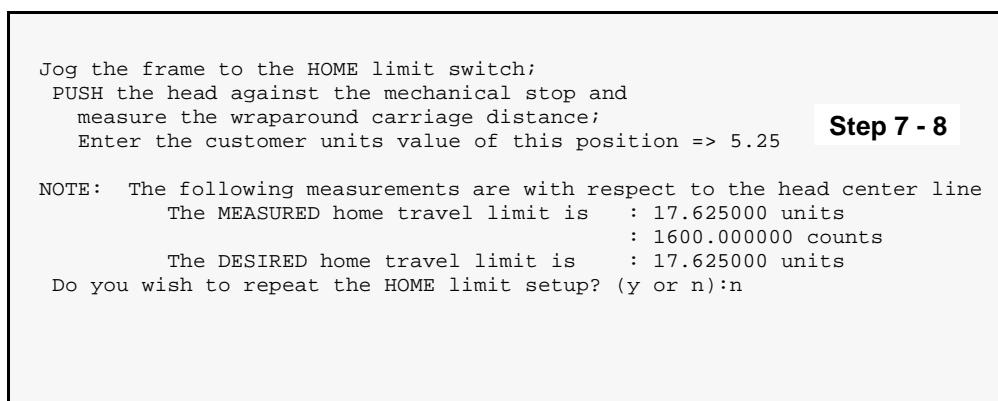

Figure 5-8 Head Position Calibration Screen
8. When requested by the *ft* utility, enter the measurement taken in Step 7., as shown in Figure 5-8.
The utility will display the measured value, in customer units, of the current position of the head package, shown in Figure 5-8. If acceptable, press return. If the value does not seem reasonable, repeat this step.